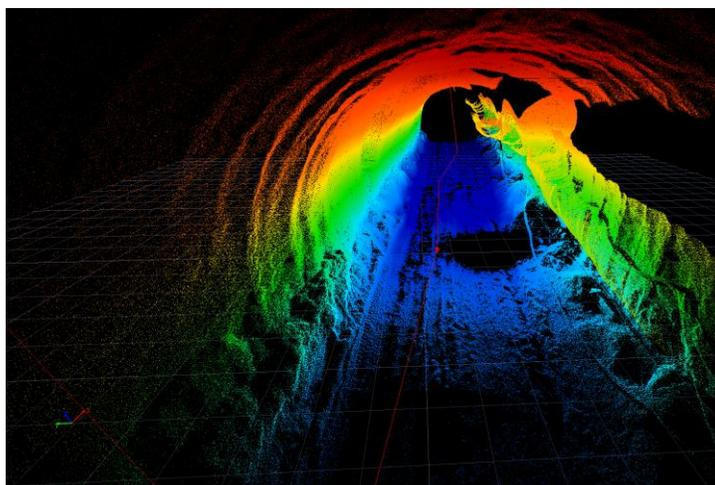

Figure 3-35 3D roaming
- (3) Click <Start Roaming>, it will display the roaming in full screen (Figure 3-35).